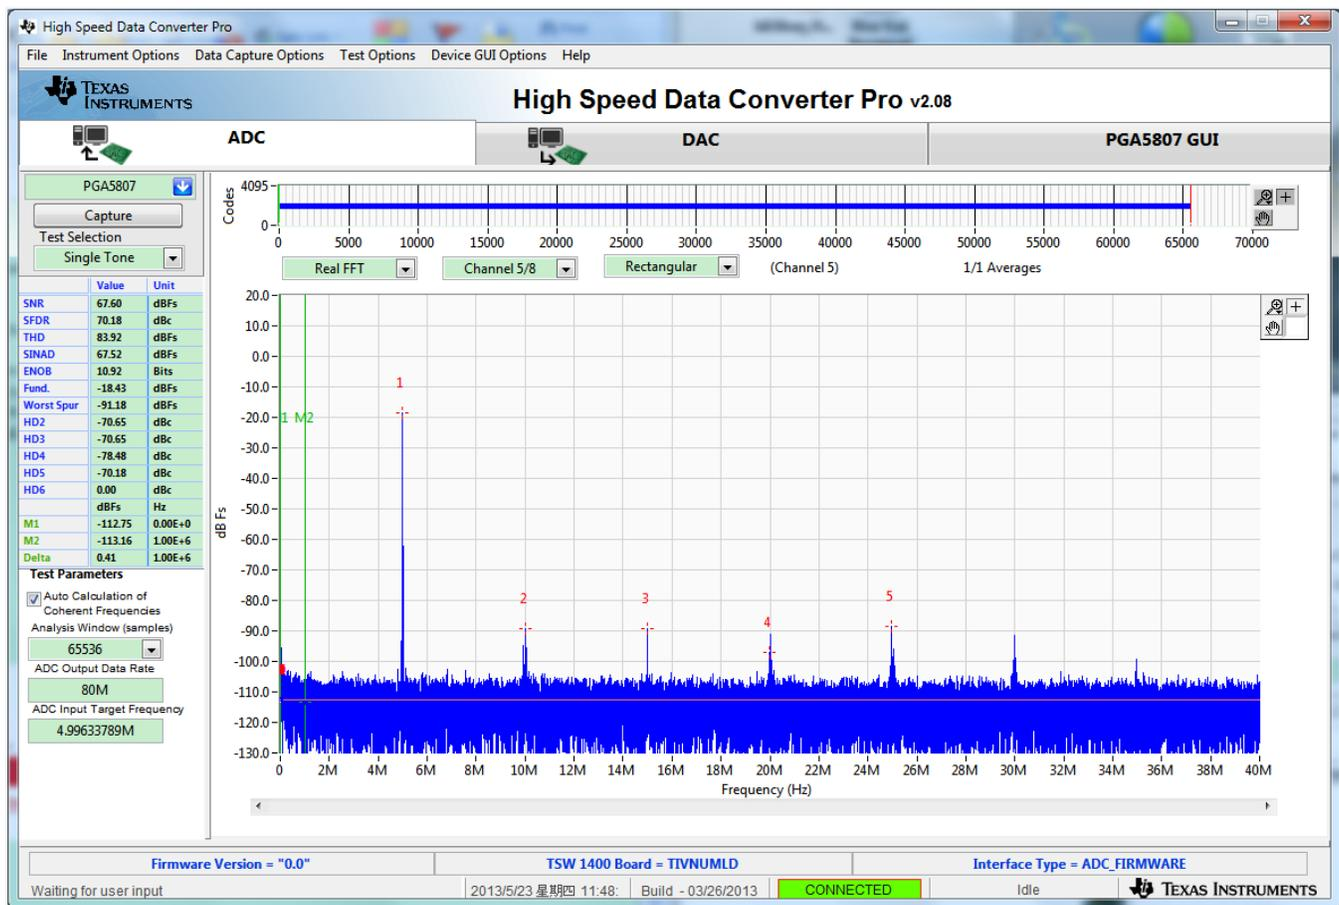

Figure 47. PGA5807+ADS5296 Gain Test Capture 2
5. Clicking on the *ADC* tab and pressing *Capture* results in Figure 47. Take the difference in the *Fund.* value shown here to the previous capture. This difference should equal the difference in *PGA_GAIN* values between the two captures, or 18 dB. In this example, the difference is 17.4 dB.